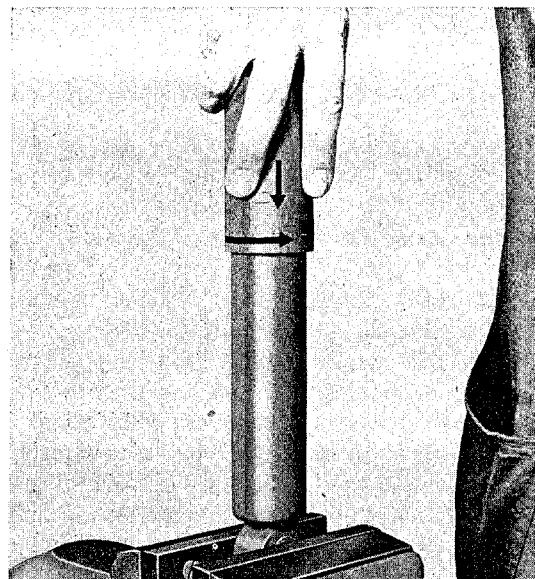

Fig. 60
1. Remove shock absorber and fix in a vise in vertical position at lower eye - with the plunger rod pointing upward - (see fig. 60).